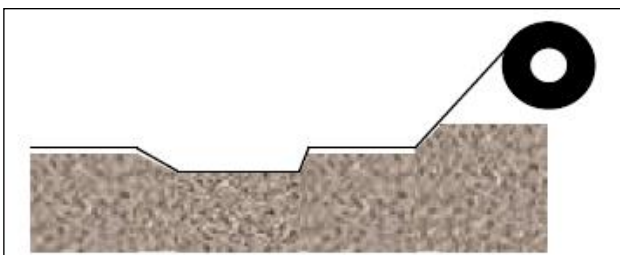

Figure 7
- 4.2.14.6. When applying tape, follow the contours of the material. Do not try to flatten the contours out with the tape. Let the tape relax into and conform to the irregularities of the surface, then rub down (refer to Figures 7 and 8) to eliminate air bubbles.